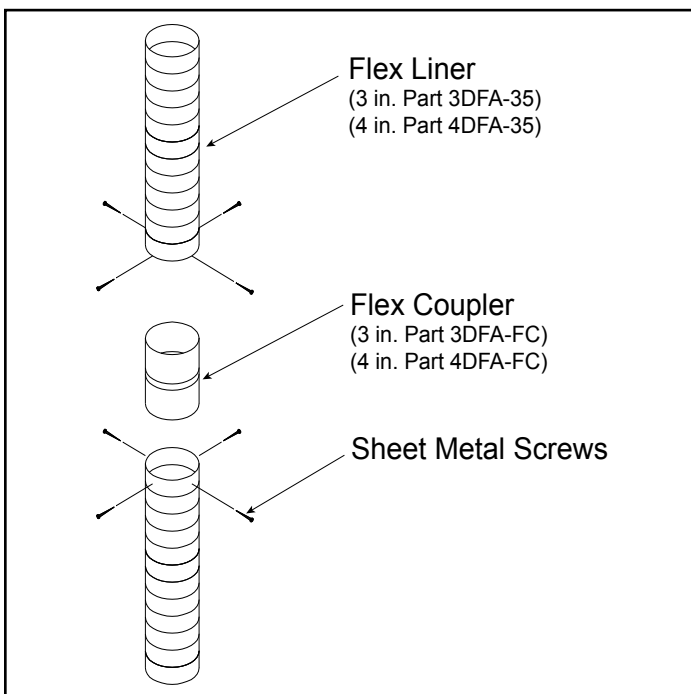

Figure 5.30
5. Connect the flex liner to the top adapter using four sheet metal screws (Figure 5.30).
7. If additional lengths of flex liner are needed to span the chimney height, use a flex coupler to connect the pieces of flex liner together. Connect the flex to the coupler by using four sheet metal screws for each side (Figure 5.30).